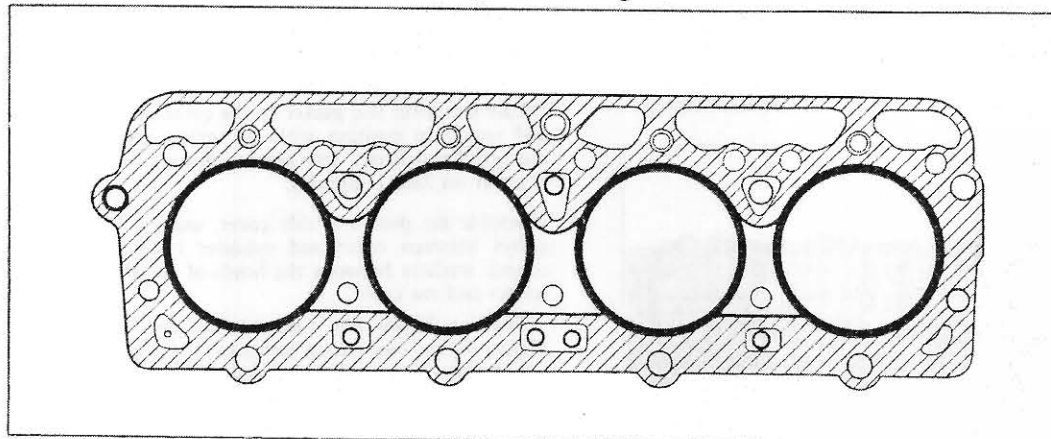

Fig. 28.
47. Apply a thin coating of Wellworthy Wellseal or approved equivalent to both sides of the gasket but only in the shaded areas indicated in Fig. 28.